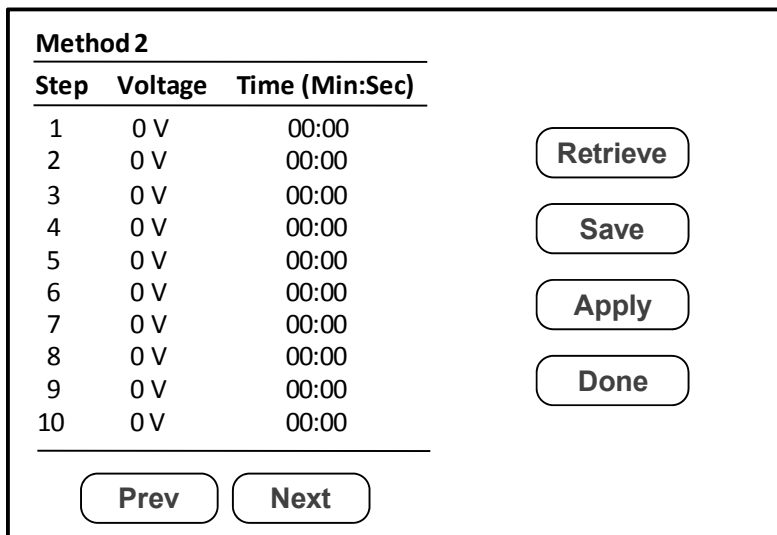

Figure 10. The GELFREE 8100 Fractionation Station. Define New Method.
3. Begin by pressing the "C" button on the number pad to clear the existing input. Next, enter a method number that has not been used and press OK. This will lead to the screen shown in Figure 10. Touch the step number to be modified.
5. Review the voltage/time profiles for each step in the new method. Press 'Save' on the Method Screen (Figure 10). A pop-up box will appear with a default method number of 1. Clear or type over the method number to give the newly created method a different number.